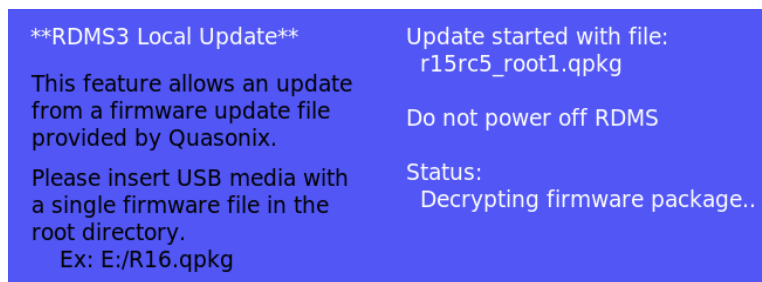

Figure 166: RDMS3 Local Update Screen, Update Status
- During the update, a status displays, as shown in Figure 166.